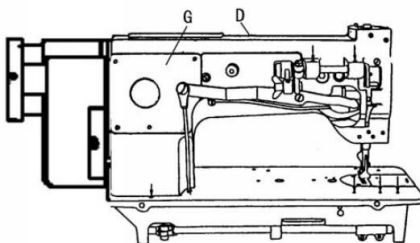

Fig.2
The pressure of the presser feet is adjusted by the screw D (Fig.2) with screwdriver. To increase the pressure, turn the screw to clockwise and to counter-clockwise to decrease it.
1) Remove the cover G (Fig.2) and loosen the screw 1 (Fig.13) slightly.